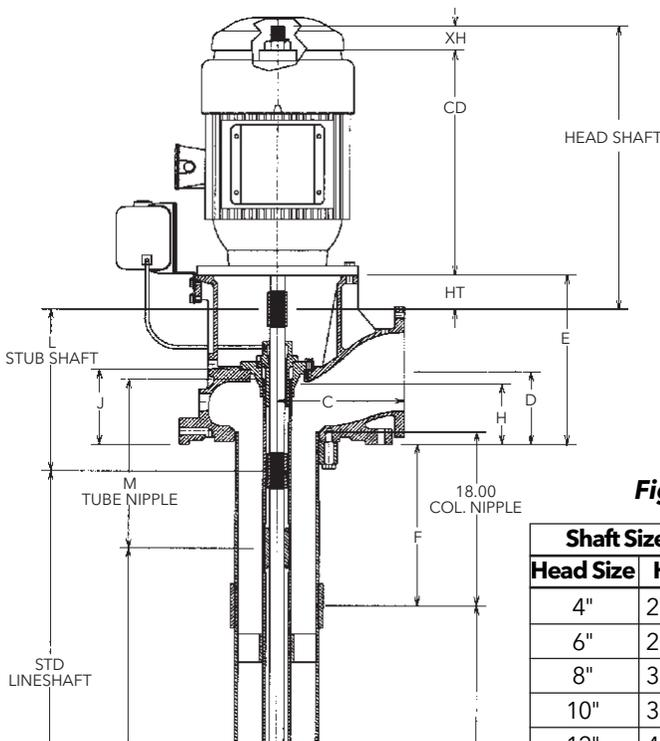
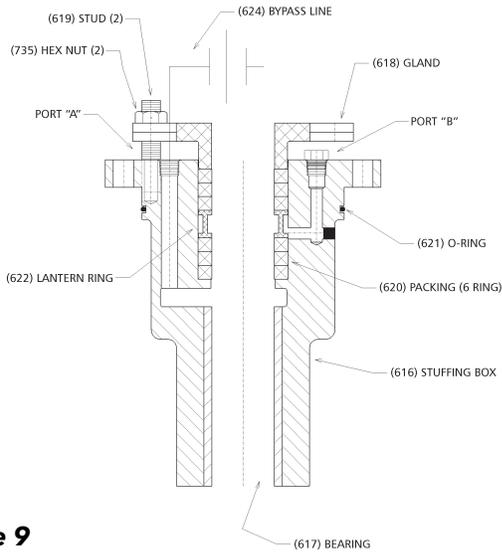

Figure 8
Figure 9
1. If the stuffing box (See Figure 8) or tension nut (See Figure 9) is assembled to the head, remove it and all the attached piping.
2. For threaded column, check to be sure that the flanged column (637) is securely attached to the bottom of the discharge head. Check and tighten the capscrews (or socket head screw) gradually in diametrically opposite pairs.
Assemble stuffing box as shown in Figure 8.
Assemble Tension Plate Assembly as shown in Figure 9.